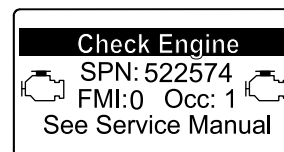

Figure 45
- Engine warning SPN 522574, FMI: 0 (Figure 45)